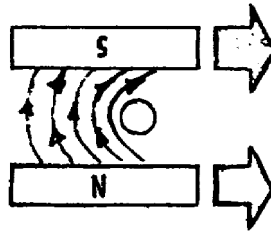

Figure 16. Magnet field moving about a wire.
e. We have seen that a magnetic field, made up of lines of force, is created around a wire when current is passed through it. If a magnetic field is moved so that the lines of force cut across a wire conductor (fig 16), a voltage will be induced in the conductor. The induced voltage will cause current to flow when an electrical load, such as a resistor, is connected across the conductor.
(1) The direction of current flow is determined by the direction of the magnetic lines of force and the direction of motion of the magnetic field with respect to the conductor. To visualize this, note the illustration (fig 16). Magnetic pole pieces are being moved so that the magnetic lines of force are cutting across a conductor.
(2) The direction of the magnetic lines of force is upward, since magnetic lines leave the North pole and enter the South pole. The direction of motion of the magnetic field is toward the right, as indicated by the arrows. With this direction of motion, the magnetic lines are striking the conductor on its left side,, which is called the leading side.